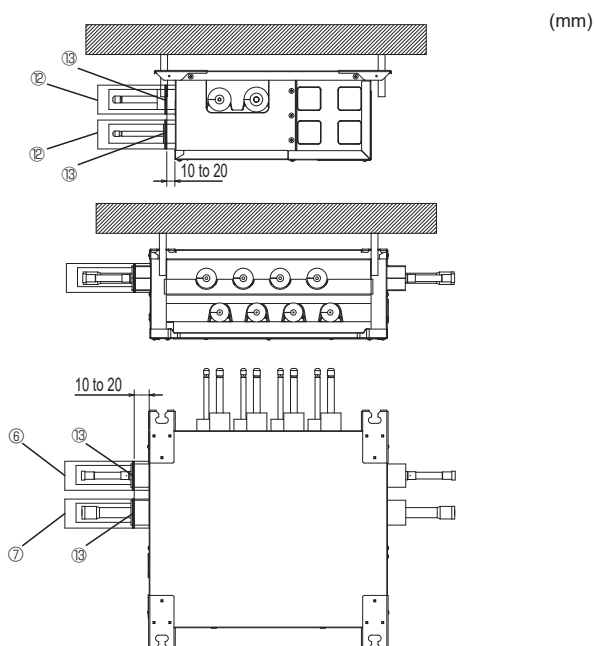

Fig. 6-10
- (8) Attach the joint covers ② (with a cap) to the connection ports which are not connected to an indoor unit to prevent condensation. (Fig. 6-10)
- (9) Attach the joint covers (⑥ and ⑦ with a cap) to the connection ports which are not connected to the outdoor unit to prevent condensation. (Fig. 6-10)
- (10) Fix the joint covers (⑥, ⑦, and ②) with the bands ⑬. (Fig. 6-10)
- Ⓐ Band (Table 1 Accessories No. ⑬)
- Ⓑ Pipe covers (Table 1 Accessories No. ③④⑤)